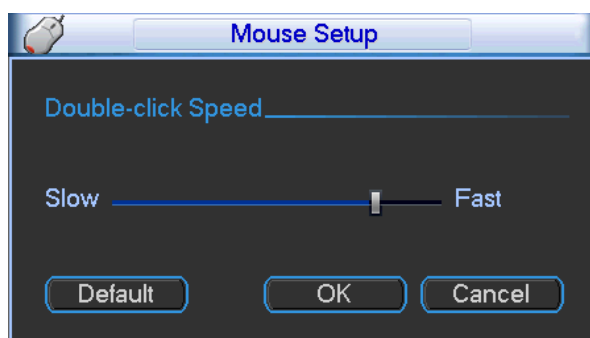

Figure 5-7
- z Holiday setup: Click it you can see an interface shown as in Figure 5-7. Here you can set holiday date. Please go to chapter 4.5 Schedule to view or set the holiday date record setup.
- z Mouse property: Click mouse setup button, you can go to mouse setup interface. See Figure 5-7. You can set double click speed via dragging the slide bard. You can Click Default button to restore default setup.